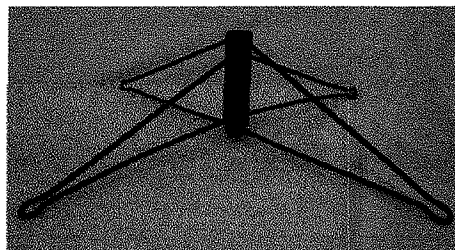

Fig.2A
STEP 1a - Open the carton and take out all the contents. All contents that are listed in the Bill of Material section on this page should be enclosed. Locate the metal tree stand and assemble it by separating the legs of the stand to form an "X" shape (See Fig 2A). Insert each of the three screws into the holes on the stand's middle section, being sure that screws do not extend so far as to interfere with installation of the tree pole. Place tree stand in desired location.